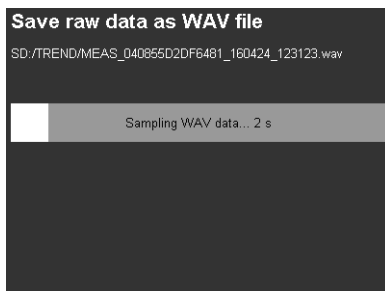

Figure 61: WAV recording
- **WAV:** Enables the raw data recording of the captured samples of a measurement channel in wave format, saved on an SD card in the TREND directory. A channel is recorded for 20 seconds at a sampling rate of 48828 samples/second with 24 bit resolution (figures 61 and 62). The samples are the raw data from the analog-to-digital converter. A gain of 1, 10 or 100 can be set before saving. The resulting output ranges are ± 10 V, ± 1 V or ± 0.1 V. A comment block ICMT containing information on the instrument and its settings is stored in the header data. Example: